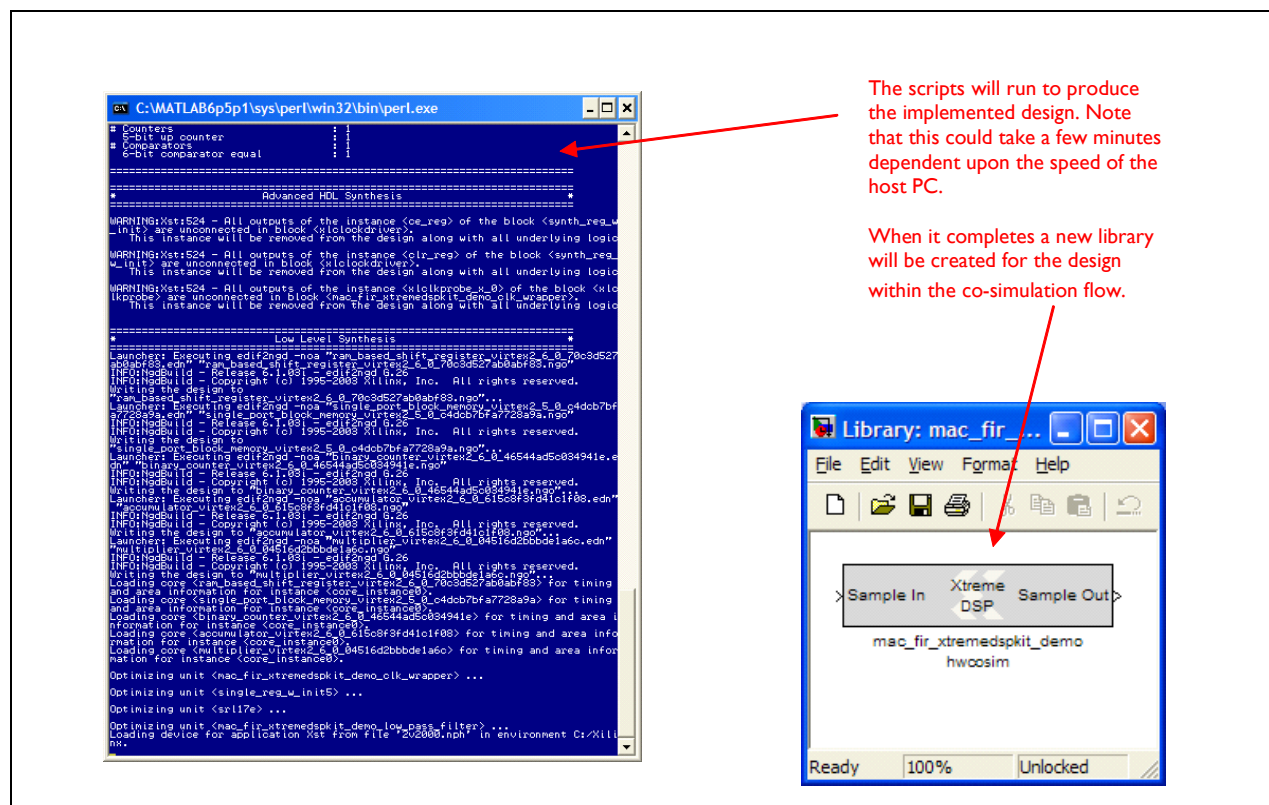

Figure 131: Command Window and Generated Runtime Library
- Once the parameters have been set, click on the '**Generate**' button to start the System Generator flow. The flow will create the netlist of the design but will also run the design through the synthesis and implementation tools to create a bitfile automatically. The process execution is carried out in a command window (shown in Figure 131 on page 206). Once complete, a new library is created which contains a single block for the cosimulation of the design. This is the runtime block.